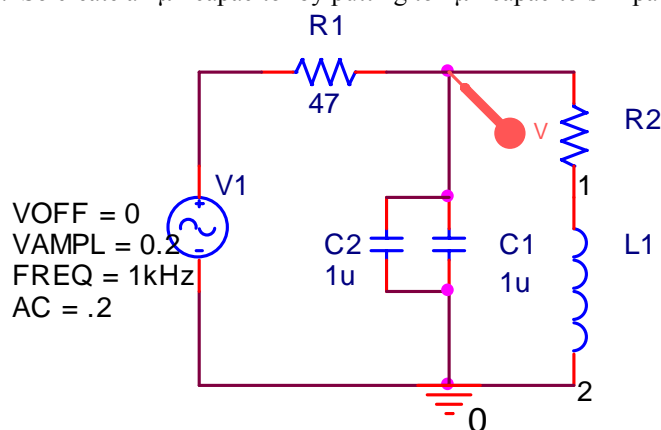

Figure B-1
Using circuits to estimate inductance: Now we will use a better method to estimate the inductance of our coil. In the circuit in figure B-1, V1 is the IOBoard function generator. R1 is from the kit. R2 is the wire resistance of the coil. L1 is the inductance of the coil. This experiment works well with a 2 μ F capacitor, which isn't in your kit. So create a 2 μ F capacitor by putting two 1 μ F capacitors in parallel.
- Set up the circuit in figure B-1 on your proto-board. Use the capacitors you measured and the inductor you built. Be careful to make sure that the inductor is making contact inside the protoboard. Do not remove the inductor from the tube.